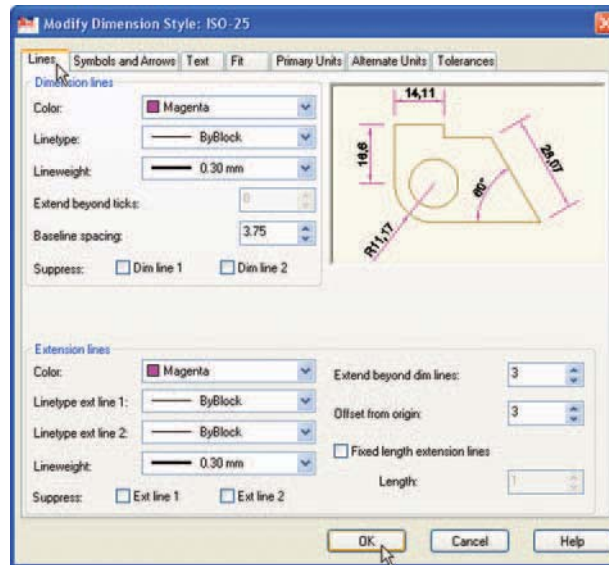

Fig. 4.11 The setting for **Lines** in the **Modify Dimension Style** dialog
3. The **Modify Dimension Style** dialog appears (Fig. 4.11). A number of tabs show at the top of the dialog. *Click* the **Lines** tab and make settings as shown in Fig. 4.11. Then *click* the **OK** button of that dialog.